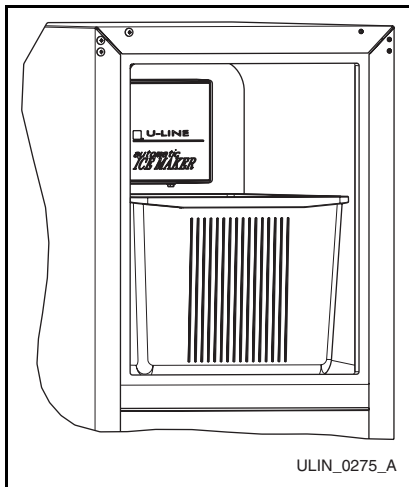

Figure 8
1. Remove the ice maker assembly cover (**Figure 8**).